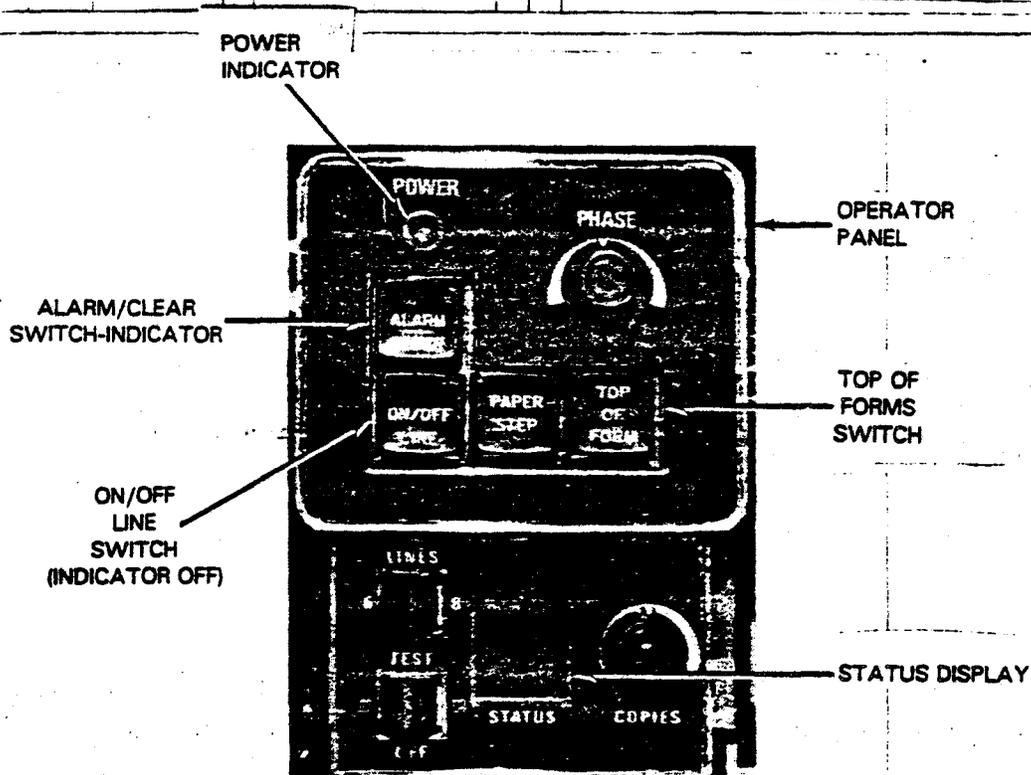

Figure 4-2. Printer Offline Controls and Indicators
3. Verify that the POWER indicator on the operator panel (Figure 4-2) lights. The ALARM/CLEAR switch-indicator should light briefly and darken after about 3 seconds.
If the ALARM/CLEAR switch-indicator stays on, note the numbers shown on the STATUS DISPLAY (Figure 4-2), and refer to Table 4-1 for error recovery procedures.
4. Press the ON/OFF switch (Figure 4-2) to set an offline condition (indicator off).